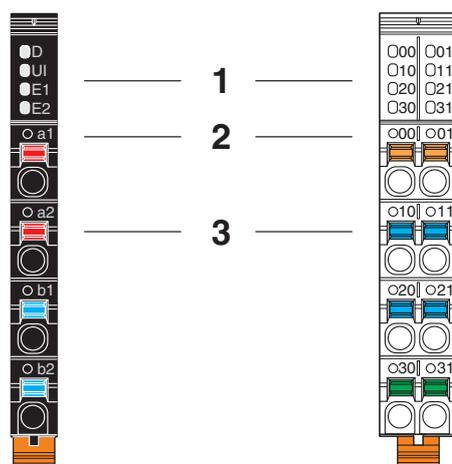

Fig. 5-25 Marking of the terminal points and the LEDs on the connectors
- Display elements** Diagnostics and status indicators are marked with the function, e.g., D, E, UI, 00, 01, ... (1 in Fig. 5-25).
- Terminal points** The terminal points are consecutively numbered, e.g., a1, b1, 00, 01, ... (2 in Fig. 5-25).
The associated colored spring lever indicates the function (signal, potential) (3 in Fig. 5-25).